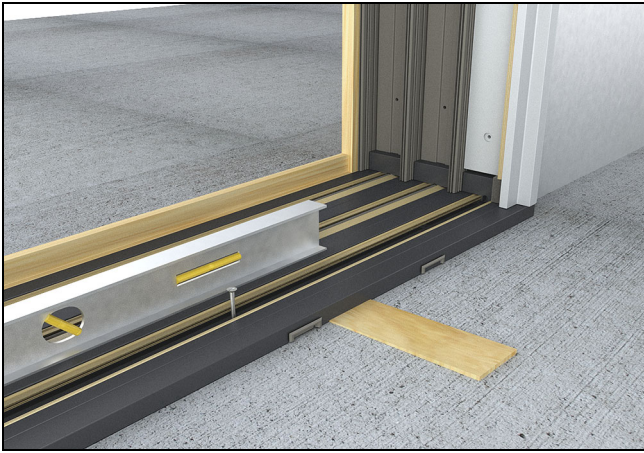

Figure 17
3. Begin to install anchor screws to secure the sill. After installing a few anchor screws, place a level on the sill and begin the leveling process, making sure that the sill is level. See Figure 17.